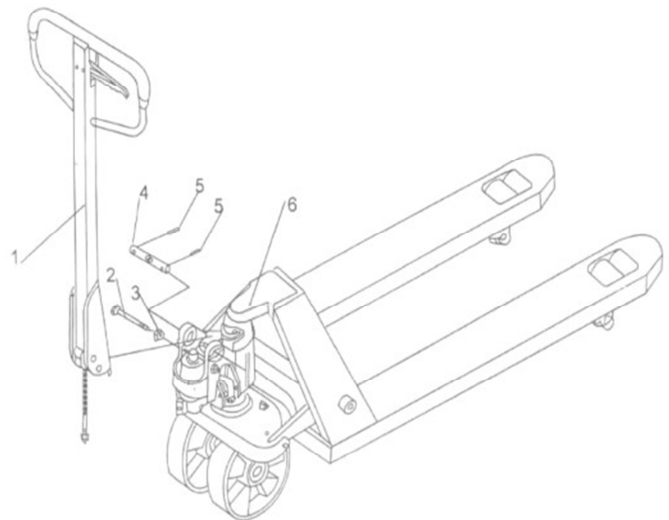

Fig. 5 Tiller assembling (symbolic)
- Press the tiller arm down; take away the pin (2, Fig. 5).
- Set the control lever of the handle to 'QUICK LIFT' (LIFT) position, then raise the lever plate with the pin (2, Fig. 5) and insert the adjusting bolt into the front slot of lever plate. Note: Keep the adjusting nut under the lever plate.
e) Use a hammer to insert the 2nd dowel pin (5, Fig. 5) into the 2nd hole of the axle.